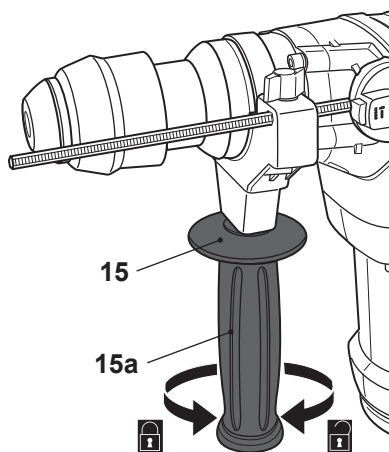

Fig. 5
- > Adjust the auxiliary handle (15) to the desired working position so that you can hold the product safely during operation.
- > Turn the hand grip (15a) anticlockwise to tighten the clamp (Fig. 5).